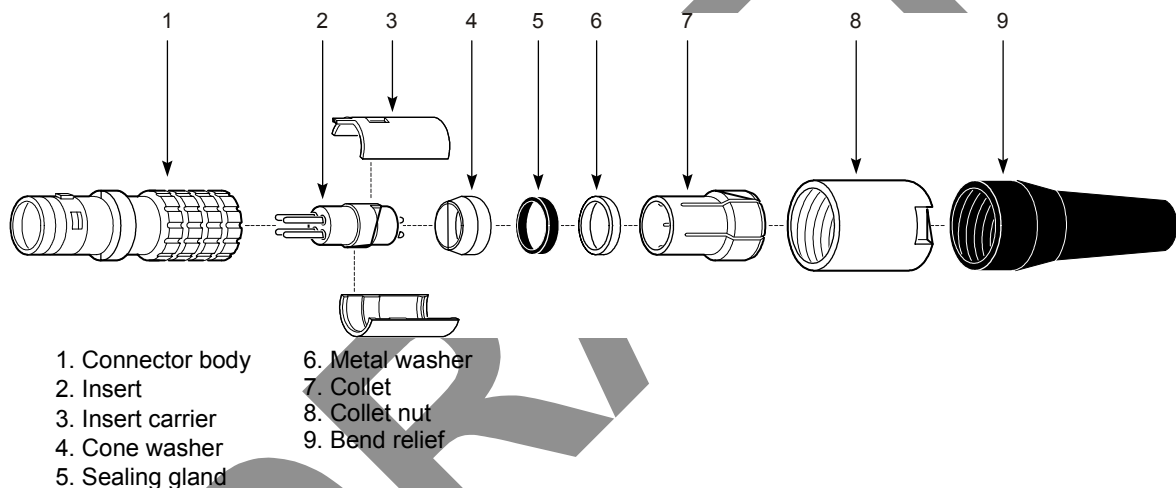

Figure 45 – LEMO Series K connector
1. Identify all parts of the LEMO connector; see *Figure 45*.